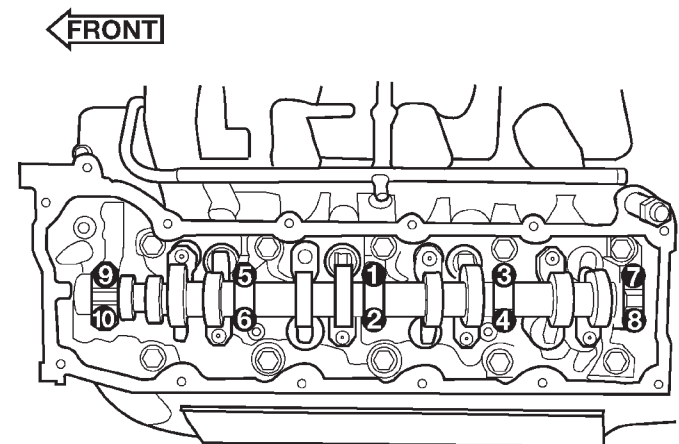

Fig. 86 Camshaft Bearing Caps Tightening Sequence
- (2) Position the camshaft into the cylinder head.
- (3) Install the camshaft bearing caps, hand tighten the retaining bolts.
- (4) Working in 1/2 turn increments, tighten the bearing cap retaining bolts starting with the middle cap working outward (Fig. 86).